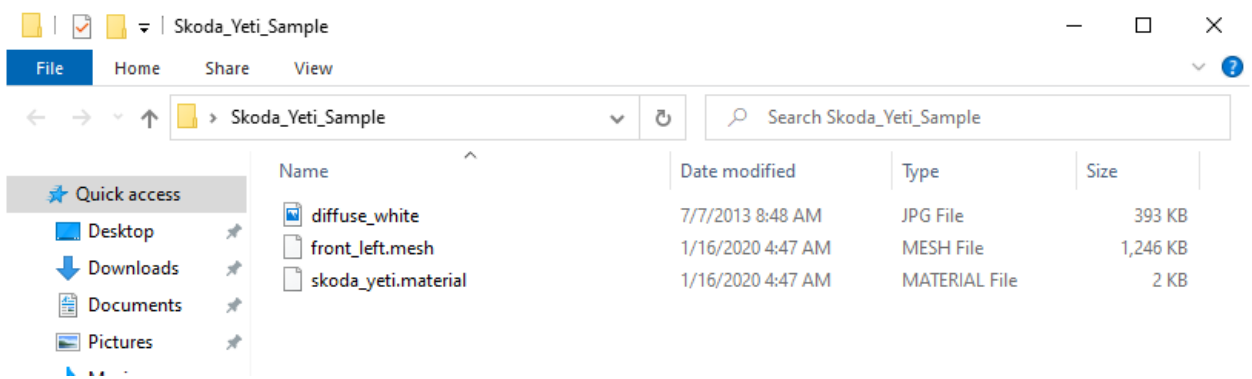

Figure 30.20. Creating the folder for a 3D object
- Copy exported ***.mesh**, ***.material** and texture files, if any, to this newly created folder **SampleUserBase\Skoda_Yeti_Sample**, see Figure 30.20.